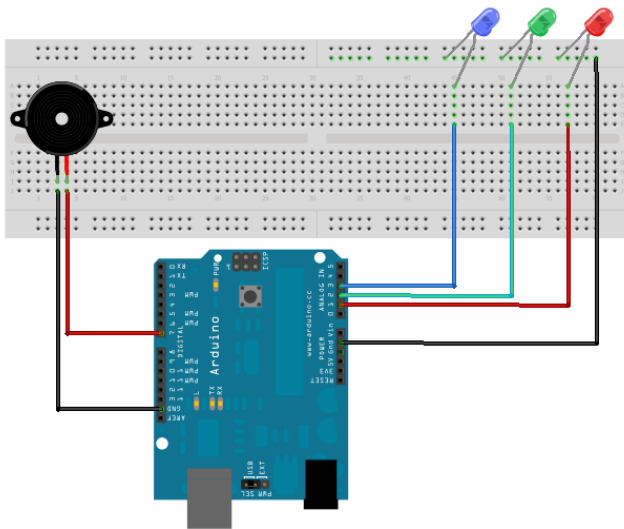

Figure 5-2. Step two.
2. Connect the speaker (Figure 5-2). Plug the positive lead into Arduino digital pin 7 and the negative pin into Arduino GND. Many speakers don't list the polarity of their connection, so don't worry too much about this; just plug it in!